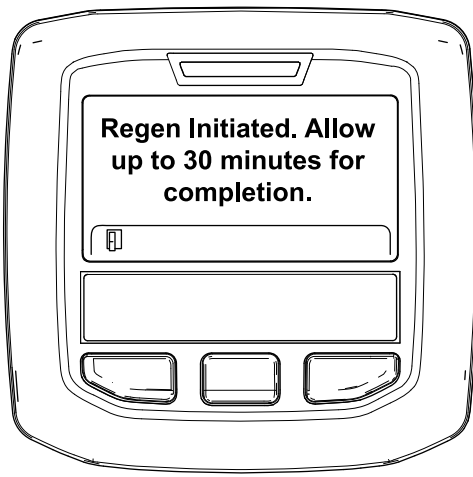

Figure 52
- If the regeneration is allowed, the "Regen Initiated. Allow up to 30 minutes for completion" message displays in the InfoCenter, wait for the machine to complete the parked regeneration process (Figure 52).